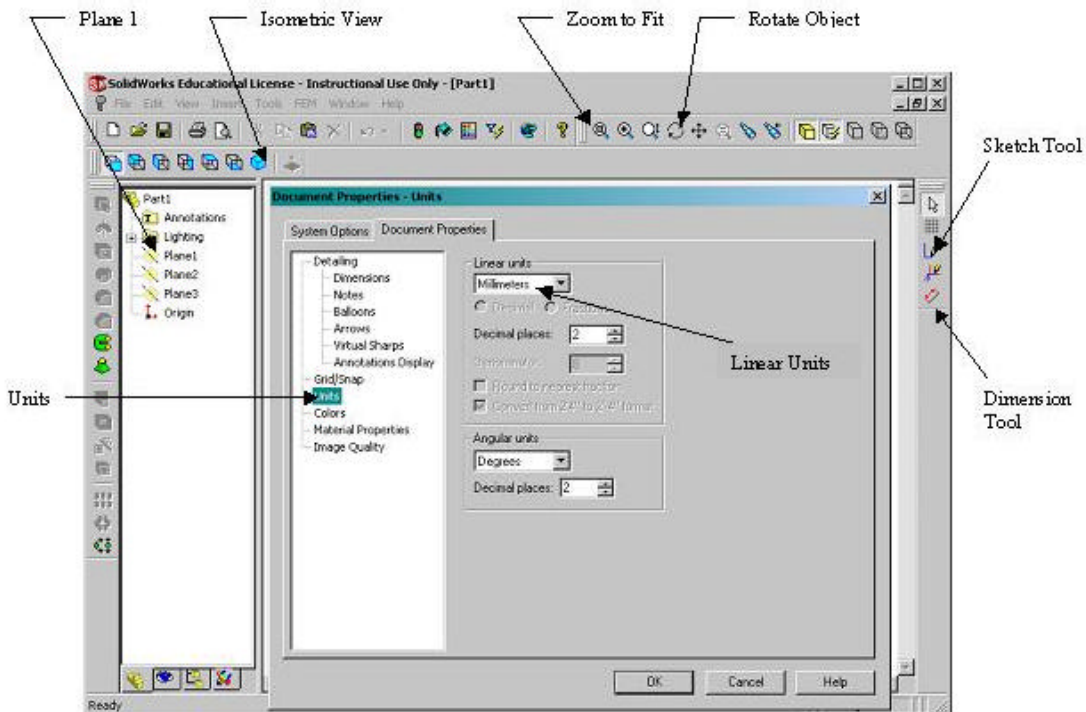

Figure 1.2
10. Click on the **Dimension** Tool (Refer to Figure 1.2) on the right side of the screen.
16. Click the **Isometric** Button and the **Zoom to Fit** Button (Refer to Figure 1.2) to see the extruded shaft.